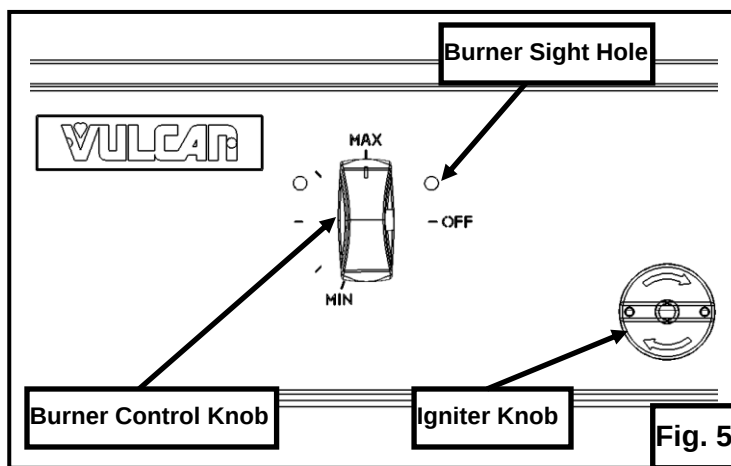

Fig. 5
2. Push and turn the burner control knob to the MAX setting (counterclockwise to vertical/90° position) on the burner you intend to light. (Fig. 5)